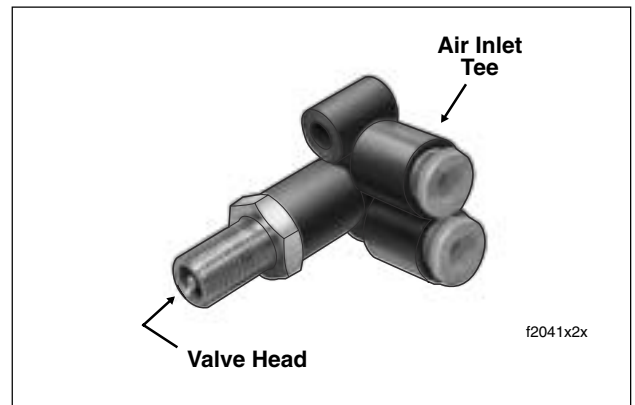

Figure 2-95. Air Valve Assembly
- h. Push on valve head to free air valve assembly from mounting bracket. See Figure 2-95.